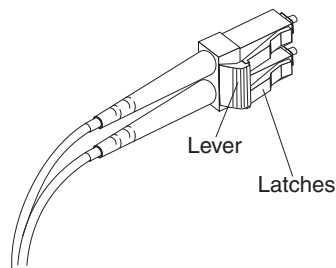

Figure 26. LC-LS Fibre Channel Cable lever and latches
1. On the end of the cable that connects into the LC connector end of the LC-SC cable adapter, press down and hold the lever to release the latches. Figure 26 shows the location of the lever and latches.